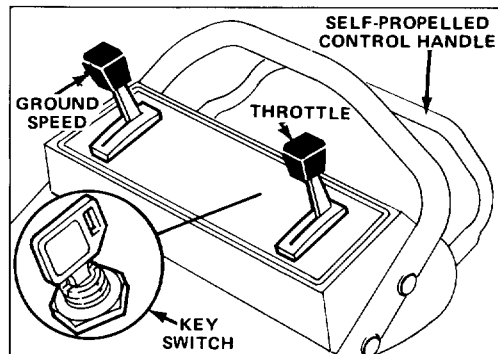
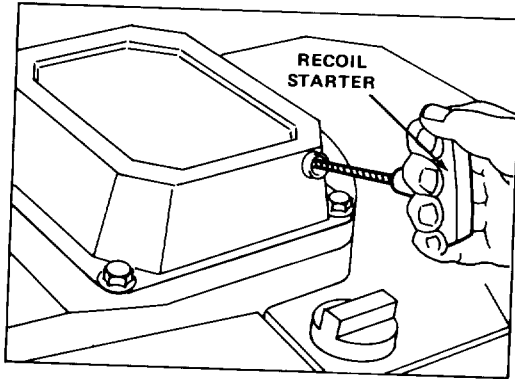

Figure 9
Figure 10
1. **CONTROLS** – Key switch, throttle, ground speed control and blade/self-propelled control bar are on upper handle (Fig. 9). Recoil starter is on top of engine.
2. Push spark plug wire onto spark plug and move ground speed control to "N" (Fig. 9).
3. **KEY-ELECTRIC STARTING** – Move throttle (Fig. 9) to CHOKE. Turn key (Fig. 9) to START and release when engine begins running. Regulate throttle as desired. If battery is discharged, engine can be started with the recoil starter (Fig. 10).
4. **MANUAL STARTING** – Move throttle to **CHOKE**. Pull engine mounted recoil starter out until positive engagement results; then pull vigorously to start the engine (Fig. 10). Regulate throttle as desired when engine starts.
7. **STOPPING** (Fig. 9) – Release control bar to stop blade and traction drive. Move ground speed control to "N". To stop engine, move throttle to OFF. Remove key from switch or pull wire off spark plug if mower is unattended or not used.